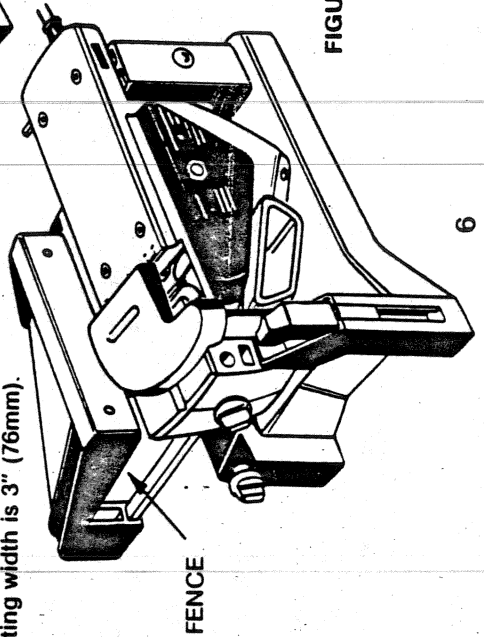

FIGURE 10
7. To complete the Planer Stand, install the Fence as follows: (See figure 10.)